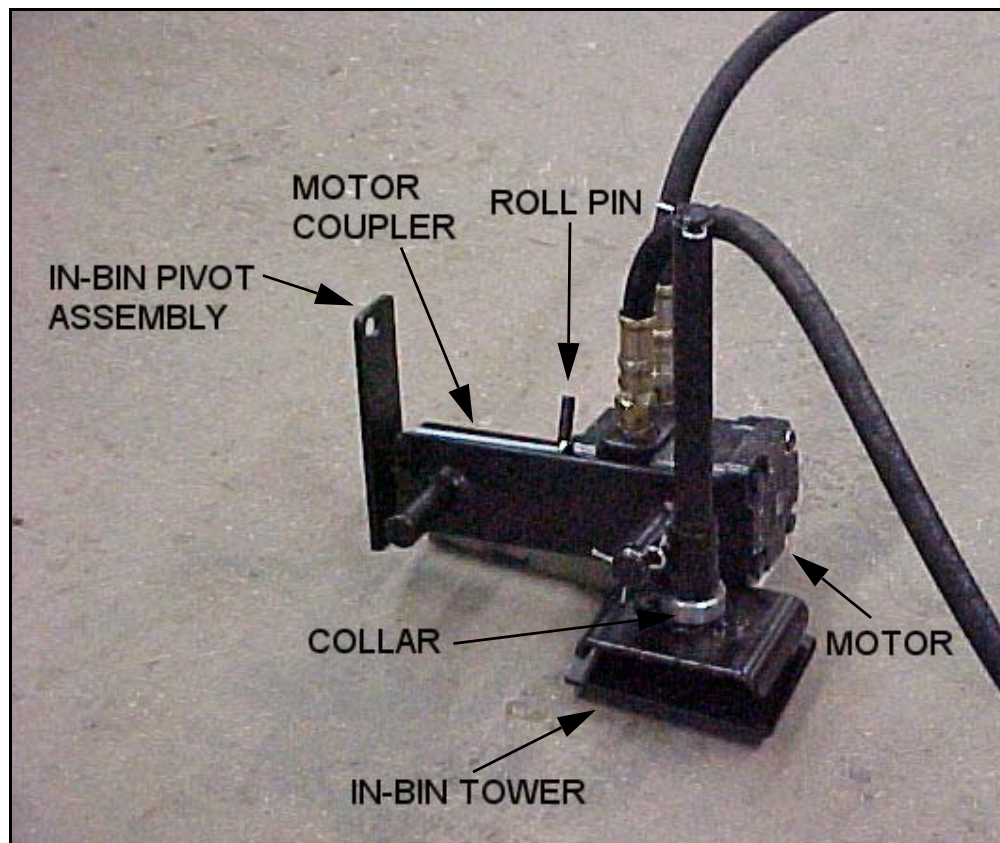

Figure 1.4 In-Bin Tower and Pivot Assembly
4. Make sure all sections are fully interlocked. The pins on the backboards fit into the hole of the next section and the flighting sections line up to form one continuous auger when twisted into place. (The welded finger on the end of one section of flighting wraps around the spoke on the stationary wheel of the next section.) (See Figure 1.4 and 1.5.)
- The collar may have to be adjusted so the Super Sweep runs level. Too high or too low will slow down the Super Sweep (see Figure 1.4).